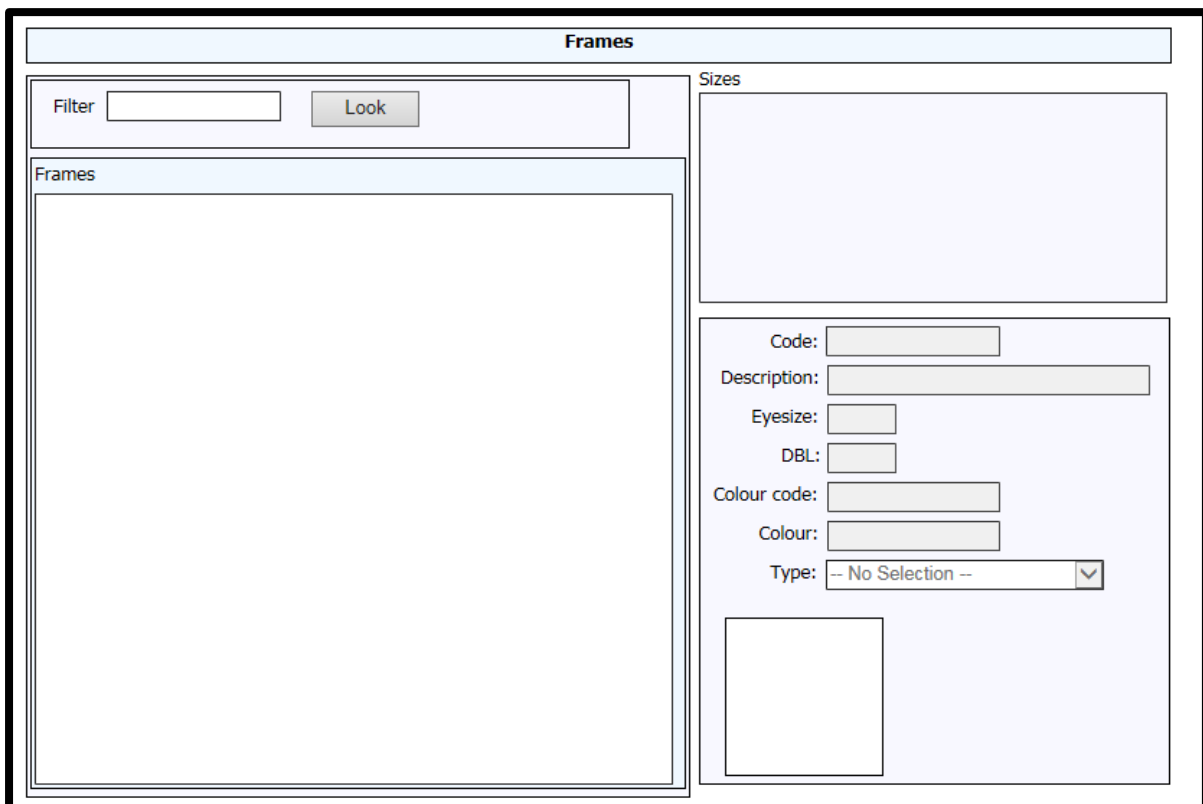

Fig. 6.0
8. If you are ordering a SUPPLY FRAME, click on the Library frame option in the source selection pane and you will be taken to the frame selection screen (see fig 6.0).